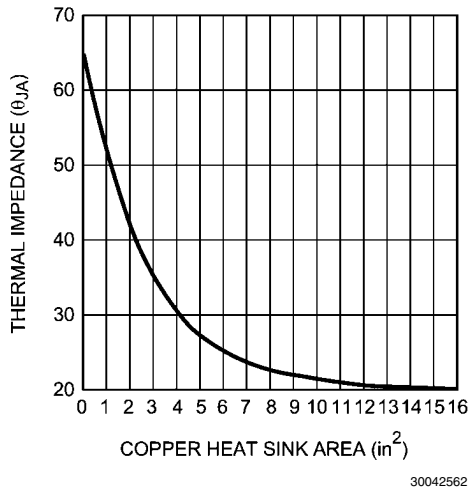

FIGURE 6. Thermal Resistance (typ) for 5 lead TO-263 Package Mounted on 1oz. copper
The TO-263 package has excellent thermal characteristics. To minimize thermal impedance, its exposed die attach paddle should be soldered to a circuit board copper area for good heat dissipation. Figure 6 shows typical thermal resistance from junction to ambient as a function of the copper area. The TO-263's exposed die attach paddle is electrically connected to the V_{EE} power supply pin.
If a heat conductive copper plane has perfect thermal conduction (heat spreading) through the plane's total area, the temperature rise is inversely proportional to the total exposed area. PCB copper planes are, in that sense, an aid to convection. These planes, however, are not thick enough to ensure perfect heat conduction. Therefore, eventually a point of diminishing returns is reached where increasing copper area offers no additional heat conduction to the surrounding air. This is apparent in Figure 6. 2 oz copper boards will have decrease thermal resistance providing a better heat sink compared to 1oz. copper. Beyond 1oz or 2oz copper plane areas, external heatsinks are required. Ultimately, the 1oz copper
5. θ_{JA} as a function of copper area in square inches is shown in Figure 6. Choose a copper area that will guarantee the specified T_J (MAX) for the calculated θ_{JA} . The maximum value of junction to ambient thermal resistance, θ_{JA} , is defined as:
4. Finally, choose the minimum value of copper area from Figure 6 based on the value for θ_{JA} .
Examining the Copper Area vs. θ_{JA} plot (see Figure 6) indicates that a thermal resistance of $21.4^{\circ}\text{C}/\text{W}$ is possible with a $8\text{--}10\text{in}^2$ plane of one layer of 1oz copper. Other solutions include using two layers of 1oz copper or the use of 2oz copper. Higher dissipation may require forced air flow. As a safety margin, an extra 15% heat sinking capability is recommended.